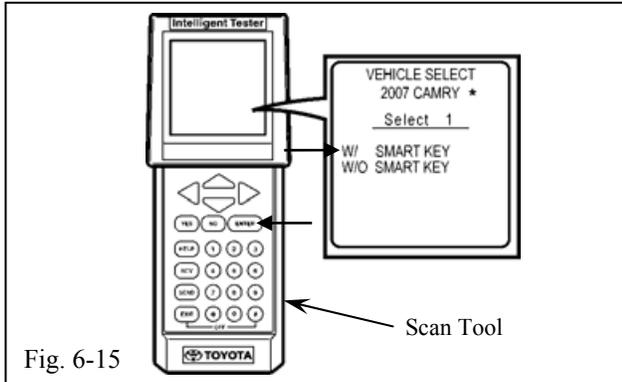

Fig. 6-15
- (u) Select "W/ SMART KEY" with the scroll key, and then press the "ENTER" button. (Fig. 6-15)